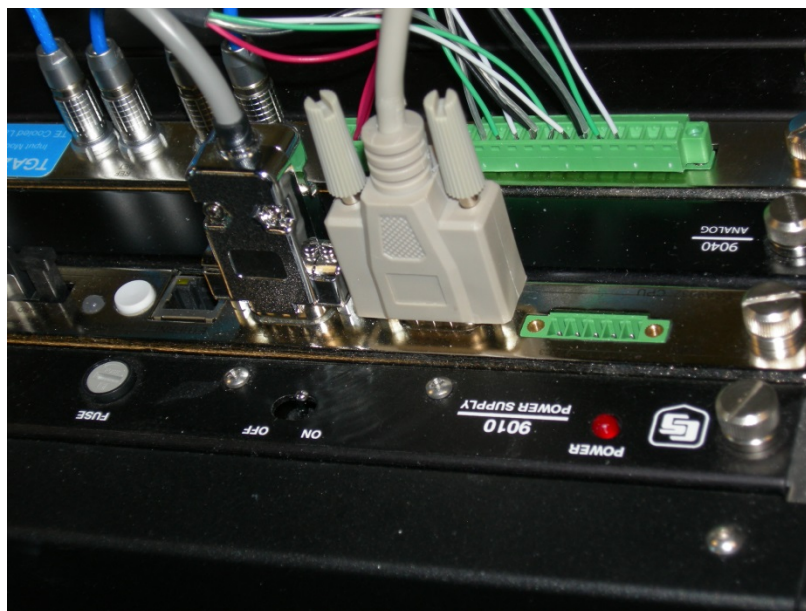

FIGURE 6-15. Serial cable connecting PC to RS232 port of TGA CPU module
1. As shown in FIGURE 6-15, connect the PC's COM port to the RS232 port on the TGA's CPU module with a serial cable (pn 20730 is supplied for this purpose).